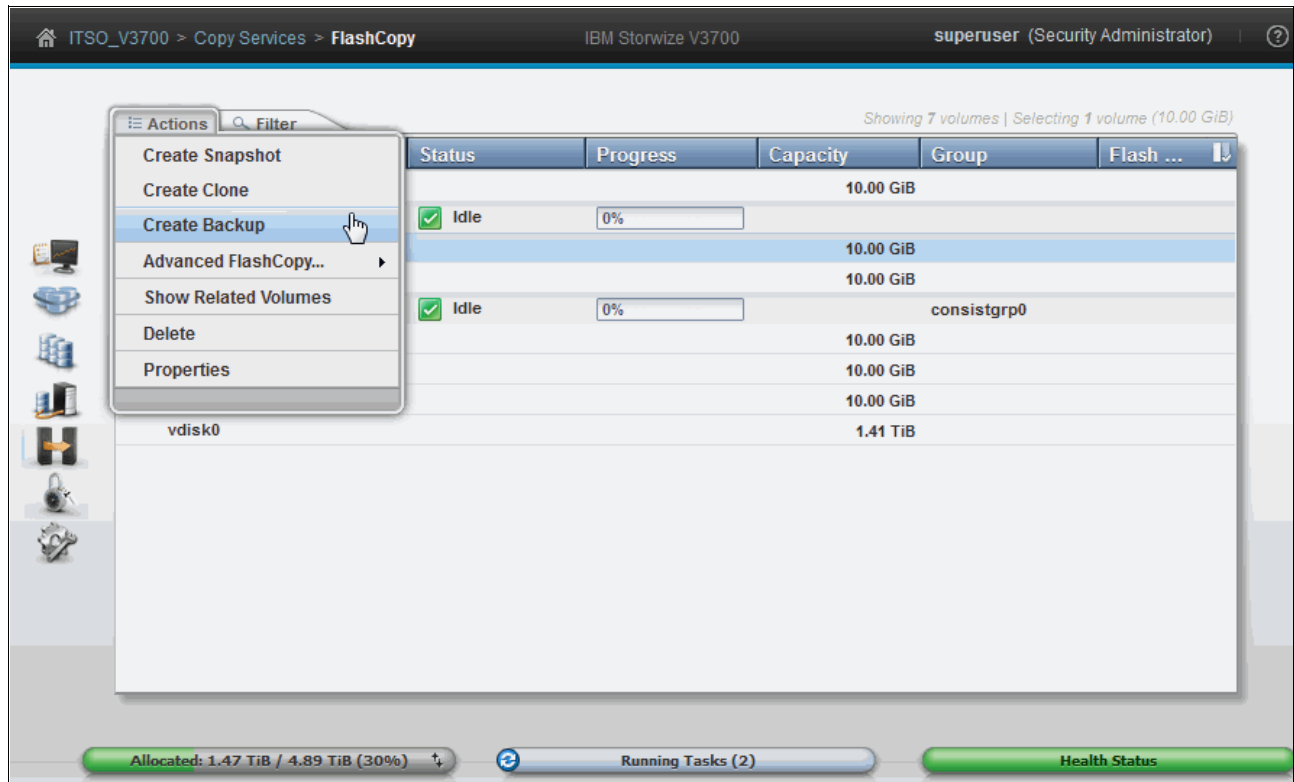

Figure 10-10 Create a backup from the preset
1. In the FlashCopy window, choose a volume and click **Create Backup** from the **Actions** menu, as shown in Figure 10-10.